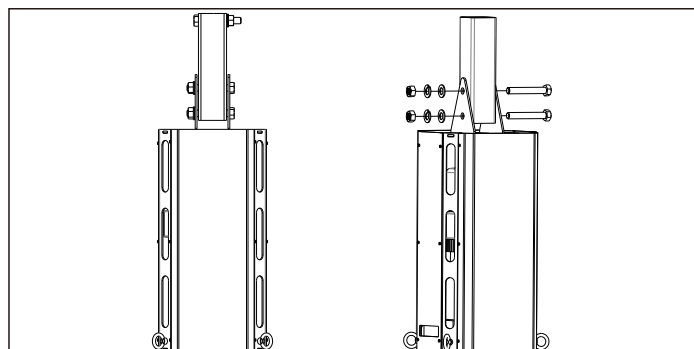

fig4.4.1/ 图 4.4.1
4.4.1 The drive device has been assembled to be one unit before delivery, fix it to the extension rod by using bolts. (Fig 4.4.1)